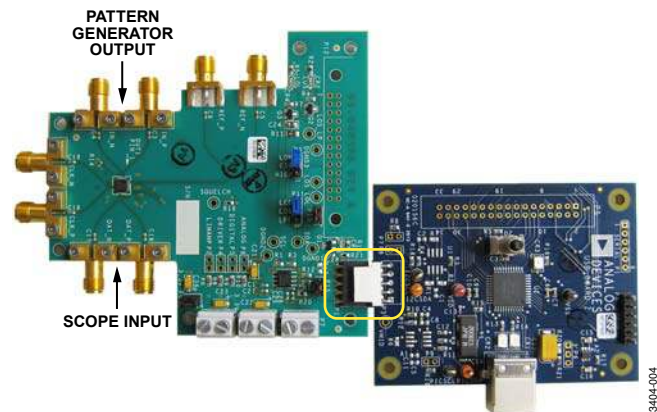

Figure 4. Connect the Evaluation Board and the Adaptor
- Connect P3 of the adaptor board to P1 of the evaluation board directly, as shown in Figure 4 (circled in yellow).
- Connect a pattern generator output to the evaluation board IN\_P and IN\_N connectors (see Figure 4).
- Connect a scope to the evaluation board DAT\_P and DAT\_N connectors (see Figure 4).